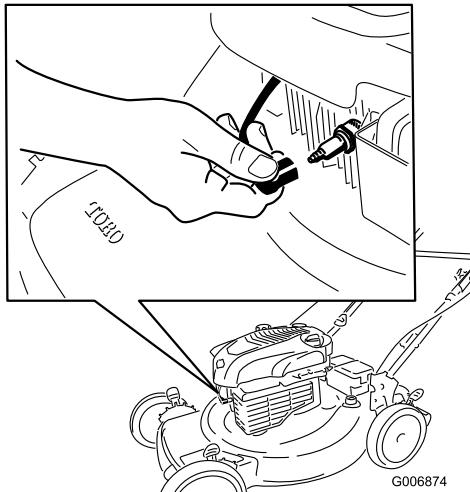

Figure 20
- Disconnect the spark plug wire from the spark plug and hook it onto the retaining post (Figure 20) before performing any maintenance procedure.